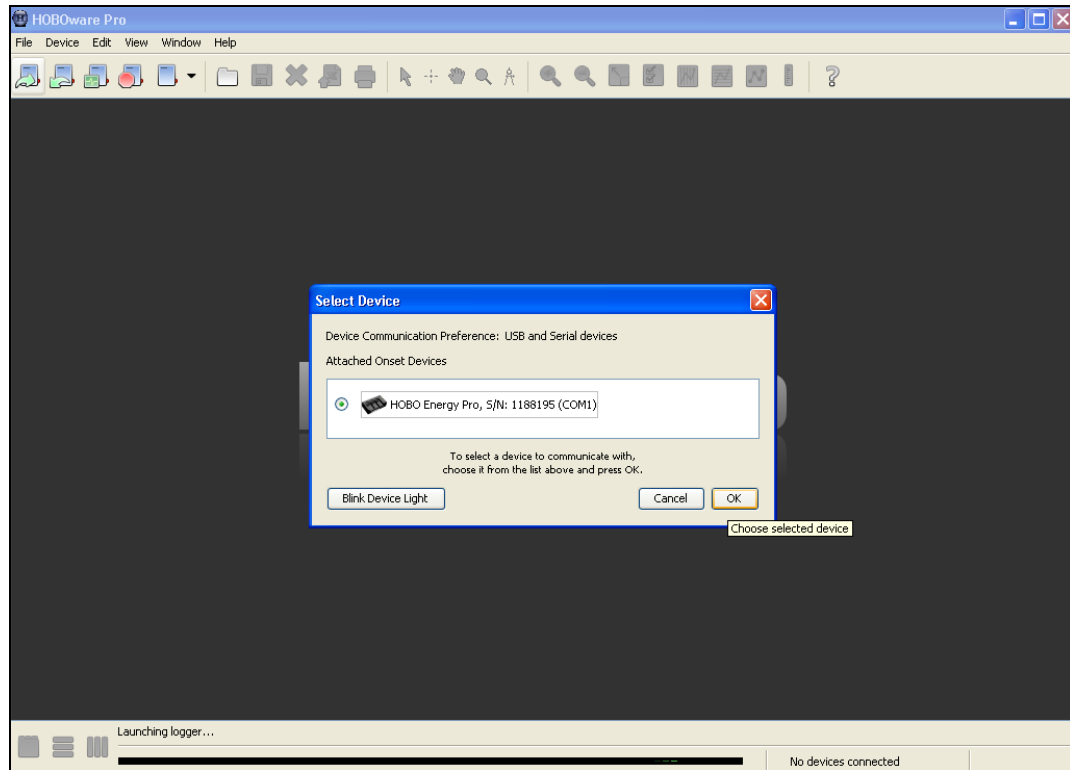

Figure 3. Selecting the Data Logger
4. After a few seconds, the software will recognize the Data Logger as seen in Figure 3 below. Select the Data Logger and hit 'OK'.
If you do not see HOBO Energy Pro, please go to the 'File' dropdown menu at the top of the program. A menu with several options will drop down. Please select "Preferences" at the bottom of the list. A new window will open. In that window, select 'Communications' and then find a "Serial Ports" button. Hit the 'Serial Ports' button and then you will see a list of communications ports. Hit the "Select All" option and then hit "OK". Close the Preferences window and try launching the logger again as we did in step 2 above. If you do not see your Hobo Energy Pro as it appears in Figure 3 below, you will need to close the HoboWare Software and then re-launch it. The waterproof U30 Data Logger uses a USB connection and does not require serial port selection.